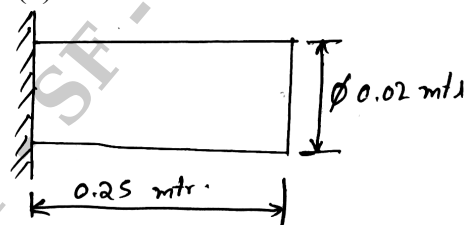

Fig Q10(b)
b. Evaluate eigen value and eigen vector of longitudinal vibration of the constrained uniform circular bar shown in Fig Q10(b). Take minimum 2 elements. $E = 210\text{ GPa}$, $\rho = 7860\text{ kg/m}^3$.